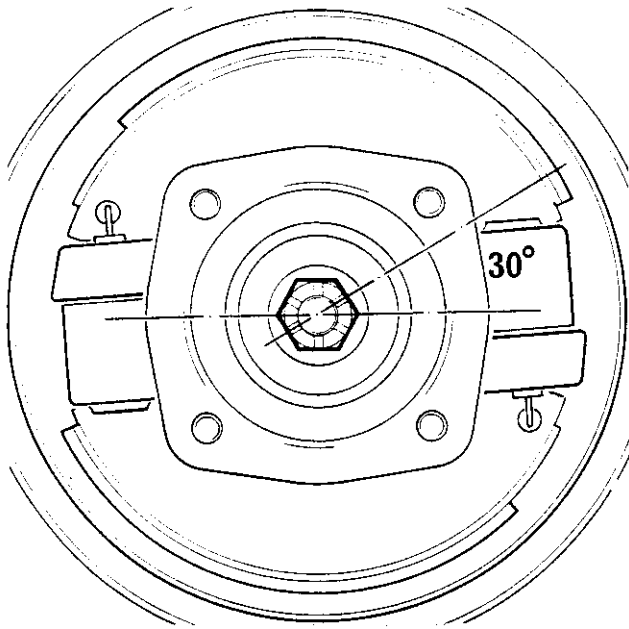

Figure 6 Hub nut adjustment
6. Slacken the nut back until a bearing float of between 0.05 to 0.15 mm is obtained. A dial gauge is preferable for this operation but if one is not available, slacken the nut off half a flay, equivalent to 30 degrees (**figure 6**). **Note:** The importance of the correct end float cannot be over emphasised. Over tightening the bearings will cause overheating and subsequent bearing failure.